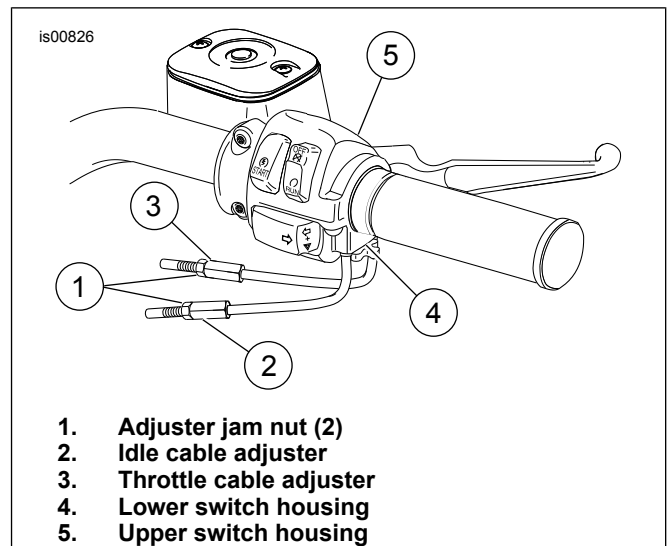

Figure 7. Handlebar Throttle Control
2. See Figure 7. Loosen cable adjuster jam nuts. Screw cable adjusters in until they are as short as possible. This will provide enough slack for easy removal.